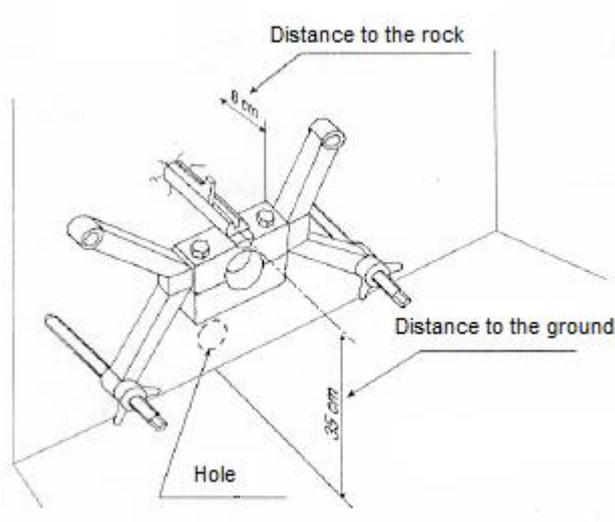

Figure 5
1. After making the anchoring hole, remove the two upper stabilising screws of the anchoring down jack, (fig. 5) and screw them onto the screw support arms at the top of the column 13 (Appendix I).